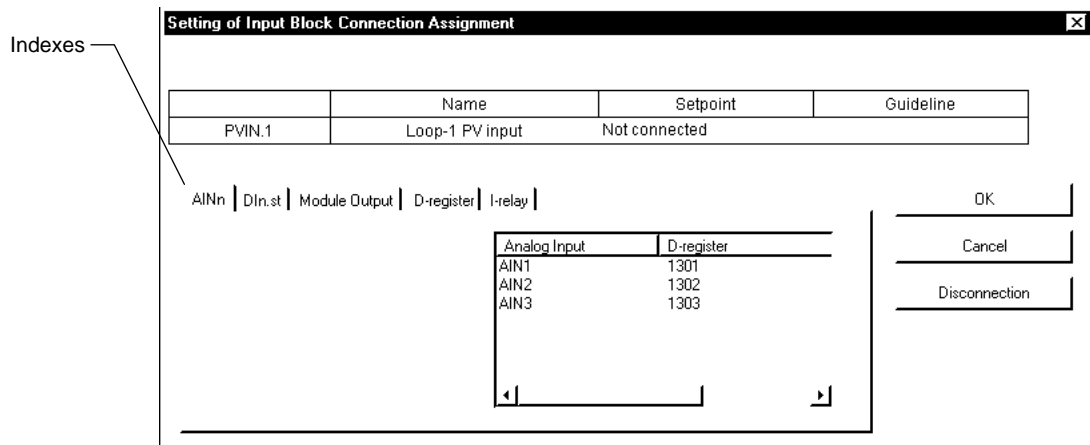

Figure 12.1.13 [Setting of Input Block Connection Assignment] Dialog Box
- ≠ From the tool menus, choose <Editing>, then <Connection>. The [Setting of Input Block Connection Assignment] dialog box (Figure 12.1.13) appears.